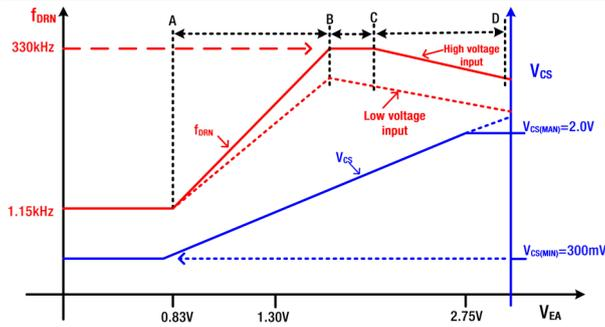

Fig. 18. Variation curves of switching frequency and peak current modulation with  $V_{EA}$
**Current Modulator:** The pulse-width modulation voltage  $V_{EA}$  generates a modulation current across the external resistor connected to the VCS pin. As illustrated in Figure 18, the relationship between  $V_{EA}$ ,  $V_{CS}$ , and the switching frequency  $f_{DRN}$  shows that  $V_{CS}$  follows the variation in  $V_{EA}$ . This behavior modulates the current across the external resistor, thereby controlling the peak current of NMO and regulating the converter's output voltage. When  $V_{EA}$  exceeds 2.75V,  $V_{CS}$  reaches its maximum value,  $V_{CS(MAX)}$ , which in turn limits the maximum peak current of NMO. To ensure adequate demagnetization time for the FB pin to accurately sample the output voltage, the minimum value of  $V_{CS}$  is clamped to  $V_{CS(MIN)}=300mV$ . This sets the minimum energy transferred per switching cycle and requires the presence of sufficient dummy load under no-load conditions to prevent output voltage drift.
**PFM Control:** The operating frequency of the RVPW012 varies according to three distinct states. First, during the BCM operating state—such as in the C to D stage shown in Figure 18 as the load on the switching converter decreases, the modulation voltage  $V_{EA}$  gradually drops. Consequently, the peak current, excitation time, and demagnetization time all reduce, leading to a gradual increase in the operating frequency, as indicated by the  $f_{DRN}$  formula. Second, with a further decrease in load, the operating frequency may exceed the maximum limit of 330kHz. This situation is most likely to occur under light load conditions and high input voltages, as illustrated by the red solid line in stages B to C of the figure. At this point, the frequency becomes fixed at its maximum value, and the system stops switching at the first resonance valley. As a result, it exits BCM and transitions into DCM. Third, at even lighter loads, to improve efficiency and reduce no-load power consumption, the RVPW012 activates its analog frequency reduction function. As the converter load continues to decrease, the  $V_{EA}$  voltage declines further, leading to a corresponding reduction in operating frequency. Due to the primary-side regulation (PSR) control, the output voltage can only be sampled during the transformer's demagnetization stage, requiring the minimum operating frequency to be limited to  $f_{MIN}=1.15kHz$ .